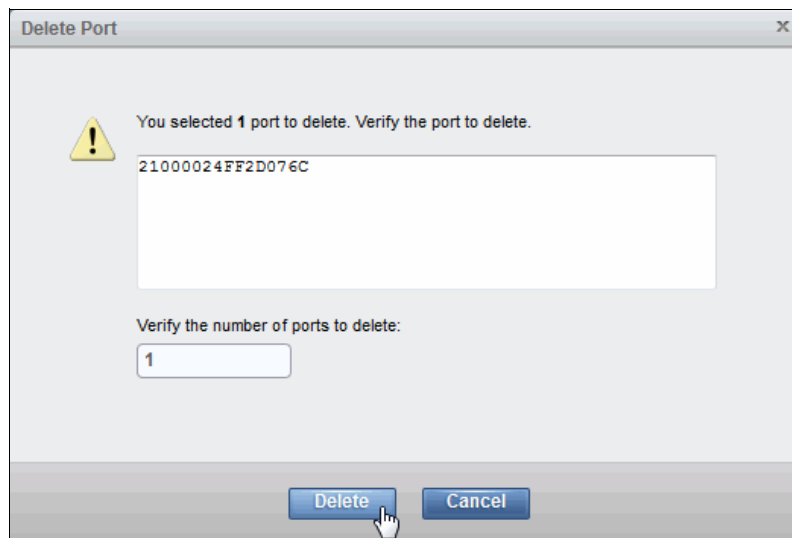

Figure 8-35 Delete host port
3. Figure 8-35 shows the Delete Ports confirmation pane. Confirm the number of ports to be deleted and click **Delete** to apply the changes.